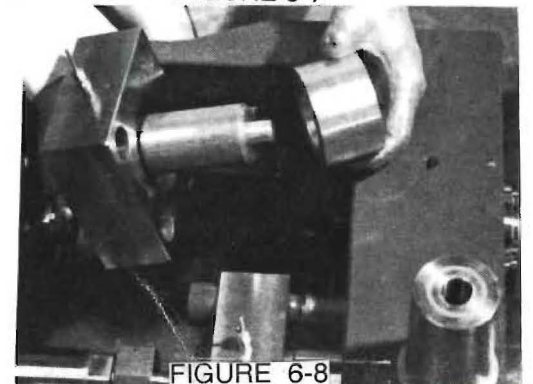

FIGURE 6-8
- F. SLIDE THE OUTER SLEEVE FROM THE FRAME PLATE. (IF IT CANNOT BE PUSHED OUT BY HAND, ADD THE SPECIAL PLATE TO THE REMOVAL ROD, AS SHOWN IN FIGURE 6-8, AND PRESS THE OUTER SLEEVE OUT THE SAME AS THE INNER SLEEVE WAS PRESSED OUT.)